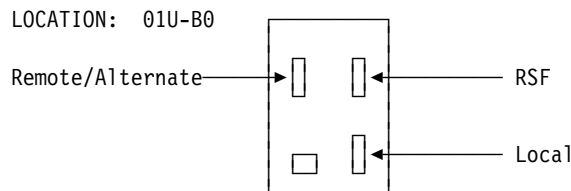

Figure 4-2. Console Tailgate
- a. **Plug the console wrap tool** (P/N 6398697) at the rear of the 3745 in the **local** console connector at 01U-B0. For locations, refer to Figure D-2 on page D-3, and see the following drawing (Figure 4-2).